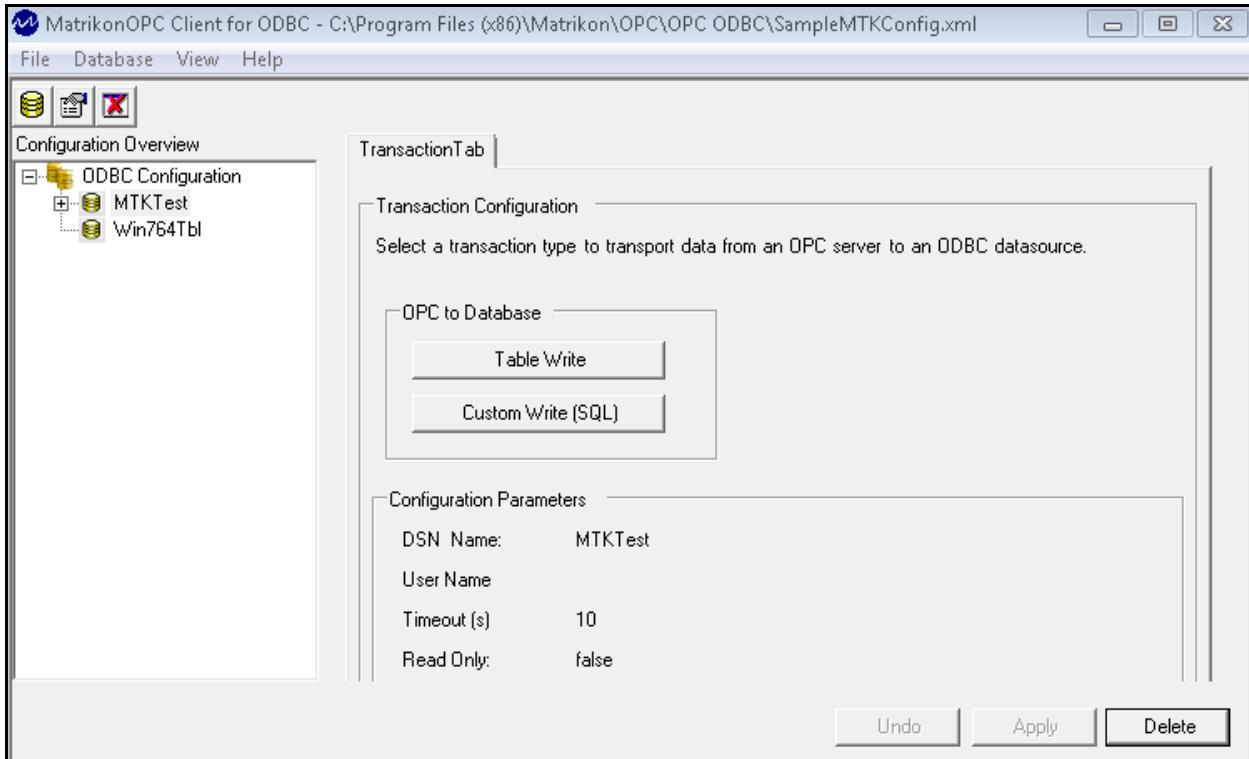

Figure 17 - Table Write or Custom Write
The **Transaction Configuration** and **Configuration Parameters** screen sections are displayed in the right pane of the **Configuration** window (Figure 17).
1. Select the required database from the Configuration window, in the Configuration Overview pane (Figure 17).